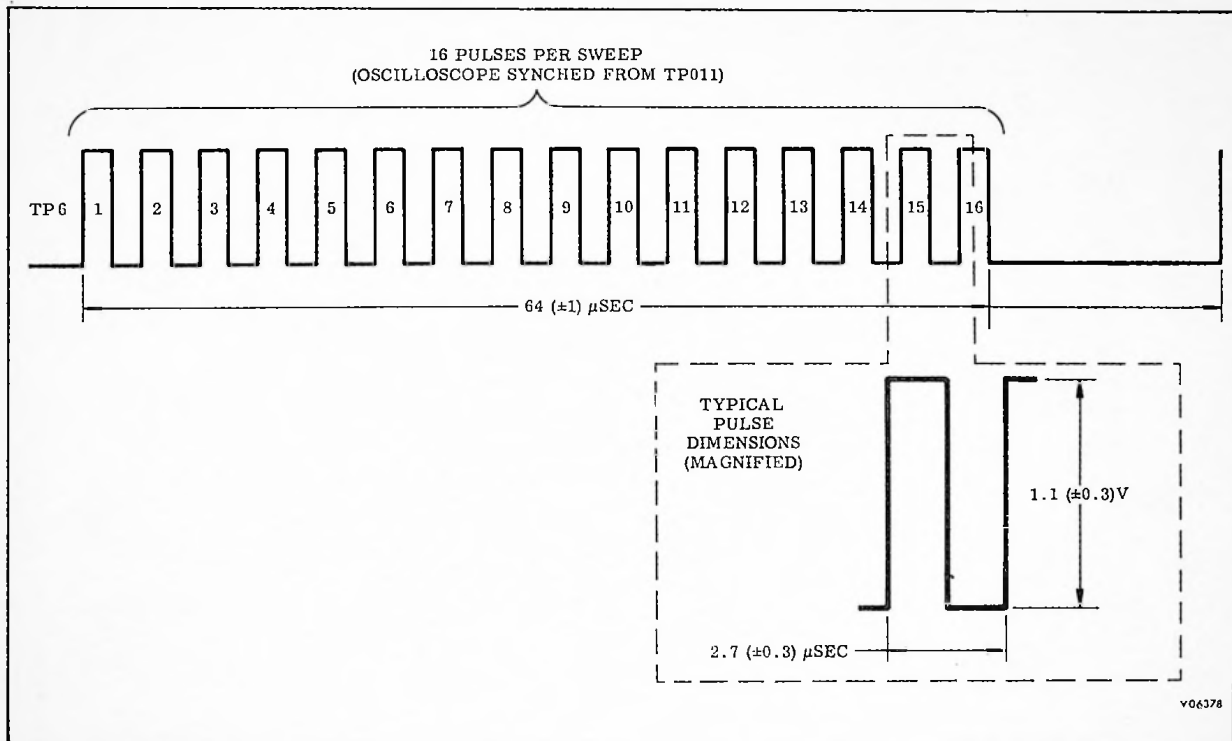

Figure 5.2-11. Timing Counter Drive Output
- d. Connect the probe to TP6. The waveform should resemble that of Figure 5.2-11.
- e. Externally sync the oscilloscope from TP011 (system). Sixteen pulses should appear in every sweep period as shown in Figure 5.2-11.